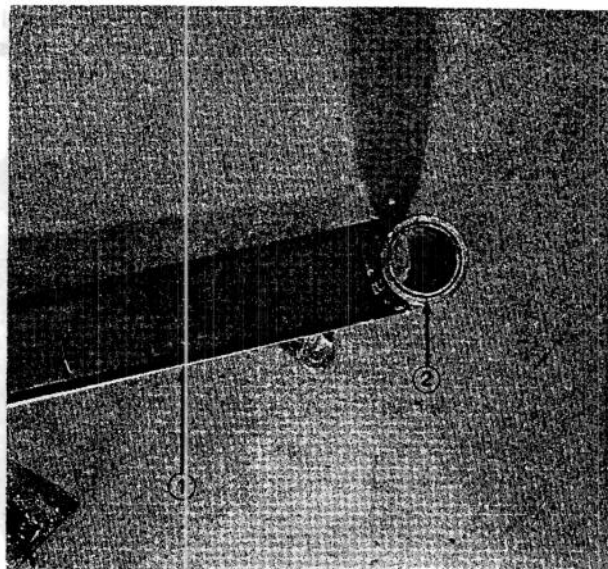

Figure 59
8. Using pin punch and hammer, drive both bushings out of axle tube (Fig. 59). Clean inside of axle tube to remove dirt and foreign matter.
9. Notice groove on inside of new bushing. When it is installed, open end of groove must face to the outside of rear axle tube. Apply grease to inside and outside of the new bushings. Using an arbor press, drive bushings into the top and bottom of the axle tube. Bushings must be flush with axle tube (Fig. 59).